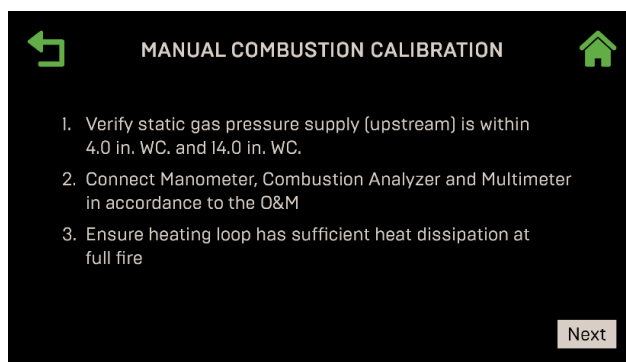

Figure 4-3: First Manual Combustion Calibration Screen
15. Verify that the manifold gas pressure on the **downstream** side of the SSOV is within the range shown in Table 4-1. If it isn't, remove the brass hex nut on the SSOV actuator to access the gas pressure adjustment screw (Figure 4-3). Make adjustments using a flat-tip screwdriver, slowly rotating the gas pressure adjustment (in 1/4-turn increments) **clockwise** to **increase** gas pressure or **counterclockwise** to **reduce** it. The resulting gas pressure reading on the **downstream** manometer should fall in the range listed below.
24. If the oxygen level at the lowest valve position is too high, and the Blower voltage is at the minimum value, you can adjust the TAC screw, which is recessed in the top of the Air/Fuel Valve (see Figure 4-3). Rotate the screw 1/2 turn **clockwise (CW) to add fuel and reduce the O₂** to the specified level. Recalibration **MUST** be performed again from 60% or 50% down to the lowest valve position after making a change to the TAC screw.